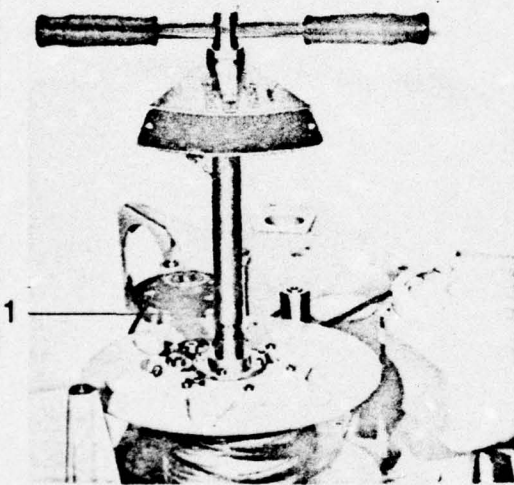

Figure 3.13
Guide spindle (1, Figure 3.13) may not be turned during these works since otherwise the limit switch becomes maladjusted.
37. Torque wrench (measuring range 0-150 cmkp) with socket $s = 14$ mm to be attached and the torque read off during a half-turn in a clockwise direction (Figure 3.13).